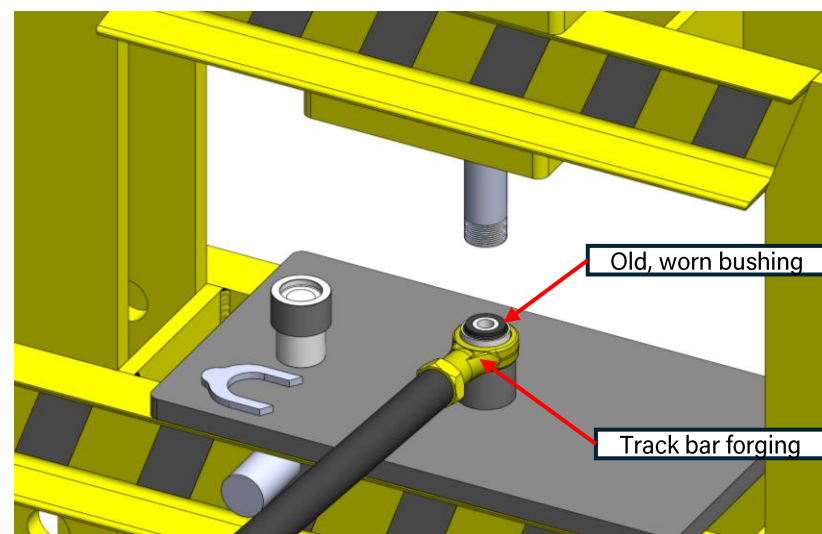

Figure 2: Track bar forging laying flat on sleeve
- Place the forging end of the track bar **flat** on top of the sleeve, with one end of the bushing fitted inside the top of the sleeve (Figure 2). You may leave the track bar threaded onto the forging, as it does not need to be removed.